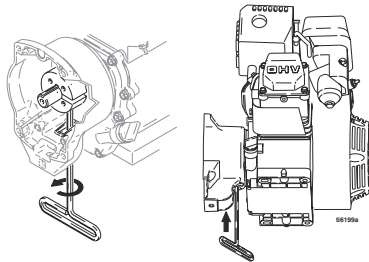

FIG. 8
3. FIG. 8. Tip engine on side so gas tank is down and air cleaner is up.